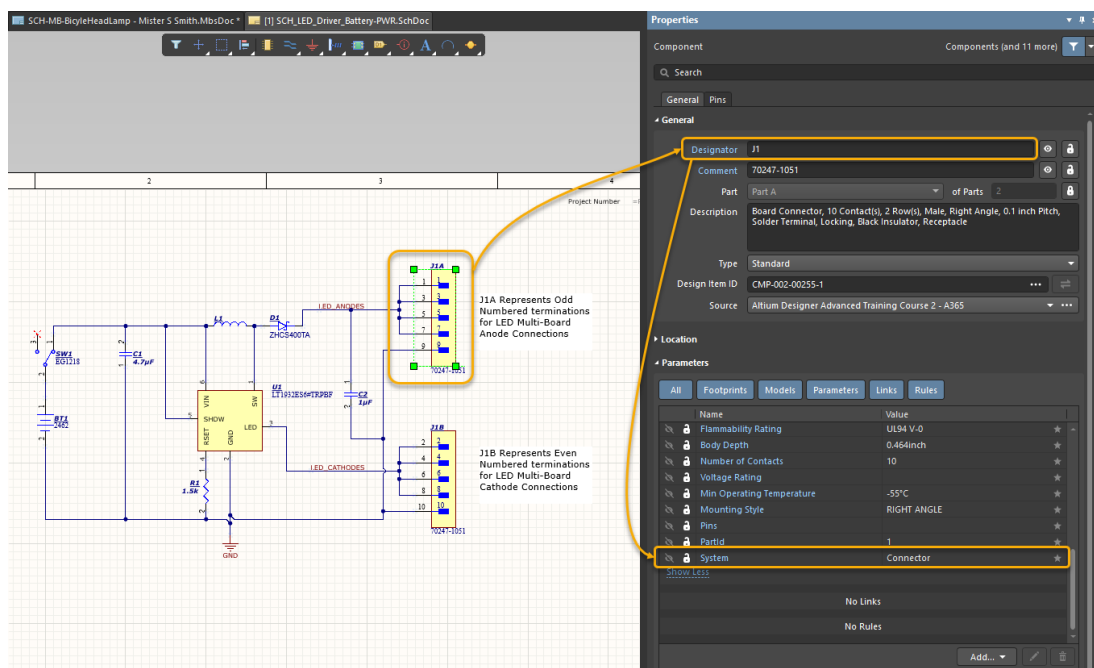

Figure 11. Example of System parameter equal to Connector
27. For this exercise, we will explore the external connectors for the required parameter setting noted above and shown in Figure 11.